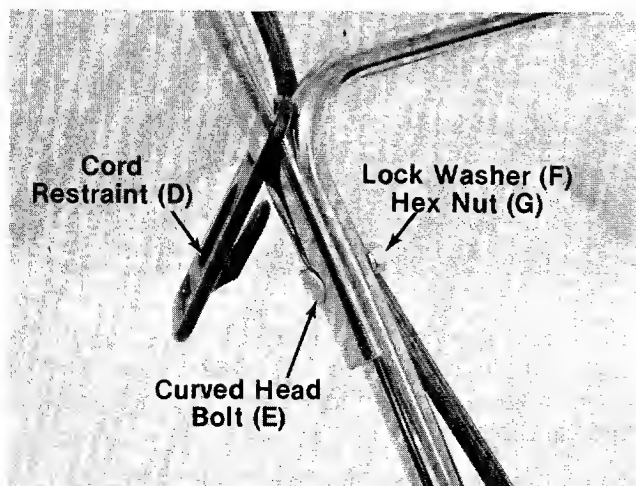

FIGURE 3.
1. Place the cord restraint (D) onto the upper handle. See figure 3.
2. Place the upper handle in position over the lower handle. The two holes for the motor/blade control must be on the right hand side of the handle. Secure the upper handle using the curved head bolts (E), lock washers (F) and hex nuts (G) as shown in figure 3. Make sure the cord restraint is on the right side of the handle.